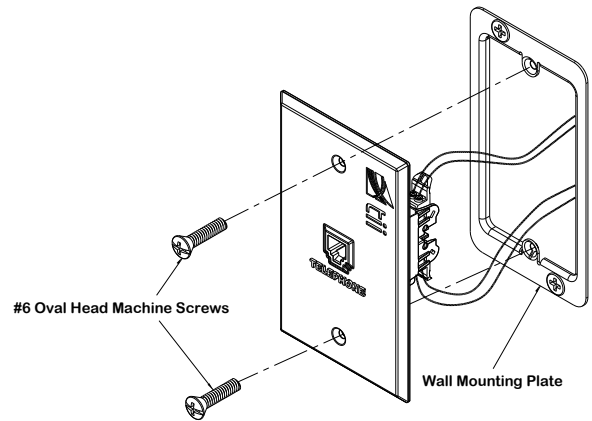

Figure 5
3. Dress the wires properly inside the wall mounting plate and secure the 761-2 to the wall mounting plate using the supplied #6 oval head screw's (See Figure 5).